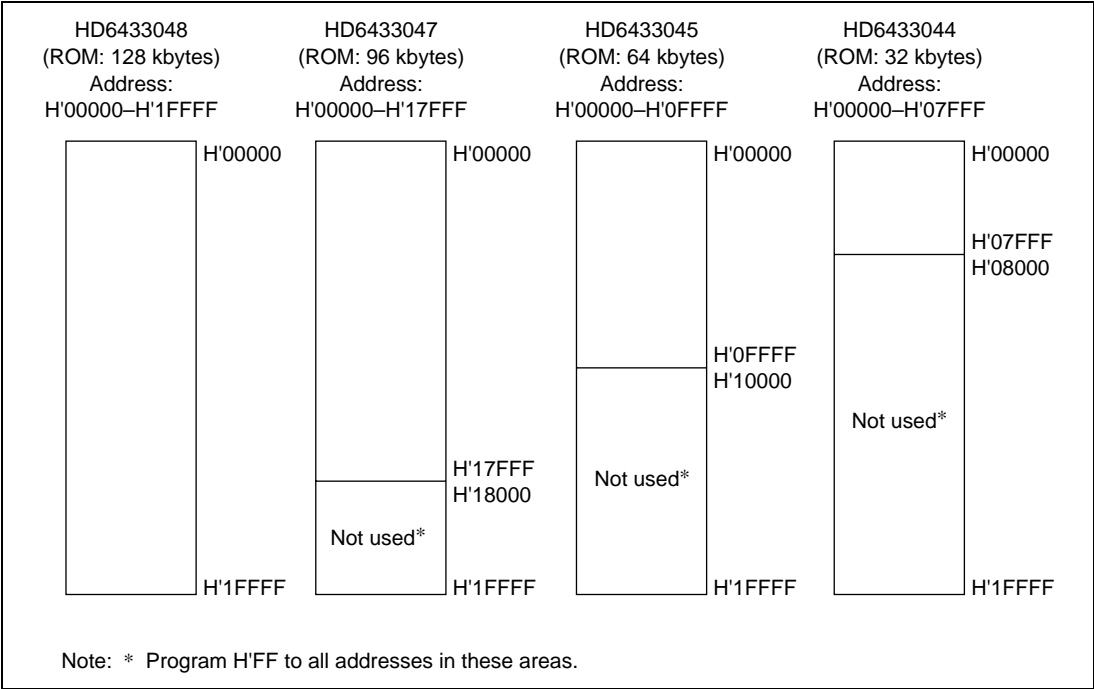

Figure 18.7 Masked ROM Addresses and Data
- Fill all the unused addresses with H'FF as shown in figure 18.7 to make the ROM data size 128 kbytes for all H8/3048 Series chips, which incorporate different sizes of ROM. This applies to ordering through an EPROM and through electrical data transfer.